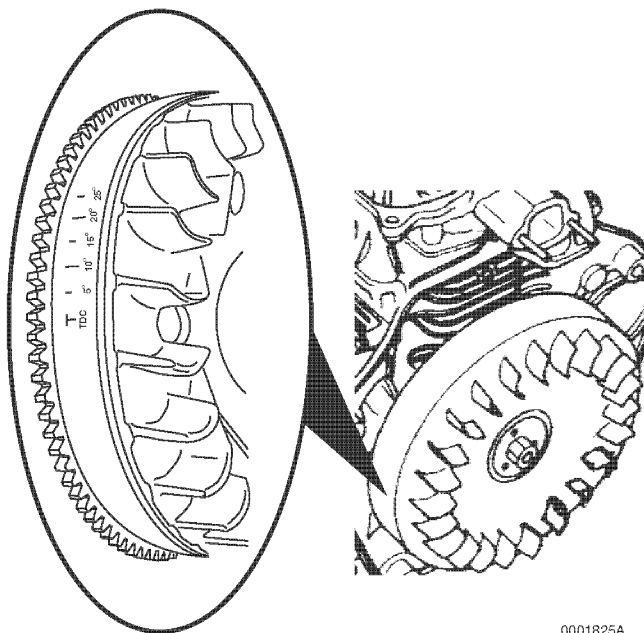

Figure 6-29
6. Rotate the flywheel to position the existing TDC mark at approximately 90° BTDC (**Figure 6-29**).
14. The mid point (Figure 6-32, (2)) (divide the distance by 2) of the distance measured is the new TDC cooling fin mark. Use a scribe or fine point marker to mark this position on the cooling fin as the new true piston TDC. Figure 6-29 illustrates an example.